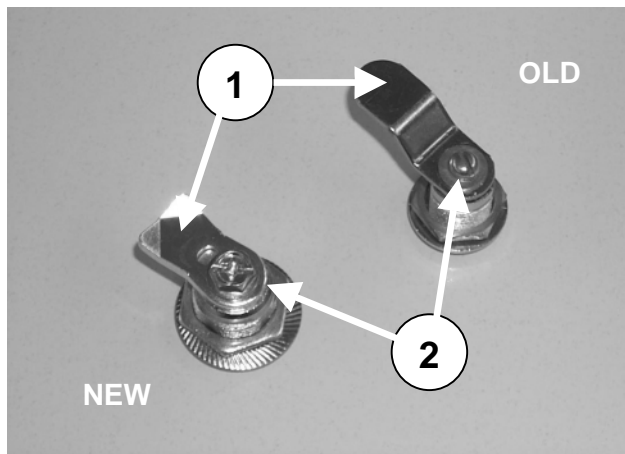

Figure 7: Old and new latches
- 2) To remove an old latch from the door, undo and remove the screw securing the cam to the cam drive (see Figure 7). Remove any washers or lock-tabs.